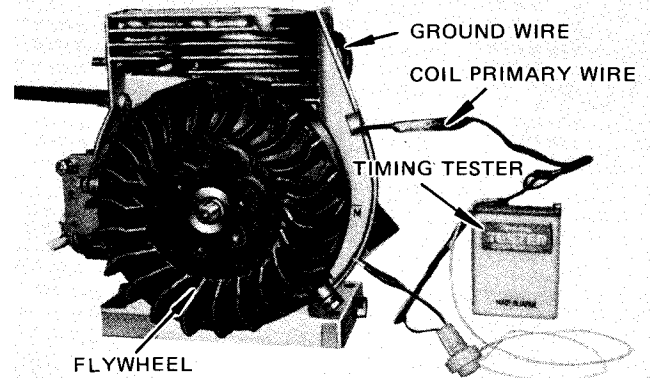

Fig. 6-3-1
- 2) However, the advance timing can be more accurately adjusted through the following procedure using a timing tester as shown in Fig. 6-3-1.
- c) Connect one of the timing tester leads to the coil primary wire, and the other to the crankcase. (See Fig. 6-3-1.)